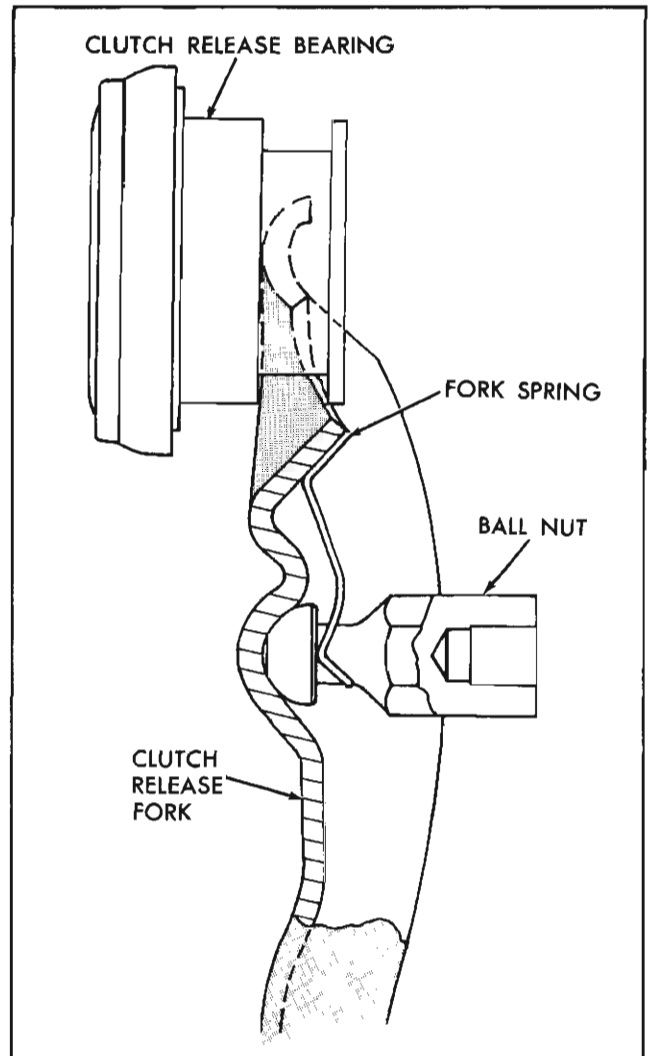

Fig. 6D-12 Fork Installed in Release Bearing
2. Set shaft in press (Fig. 6D-14) and press bearing off.
1. Set shaft in press as shown in (Fig. 6D-15) and press new bearing onto shaft.